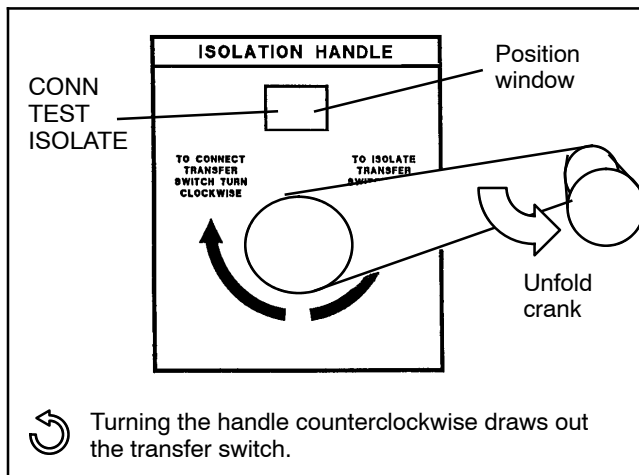
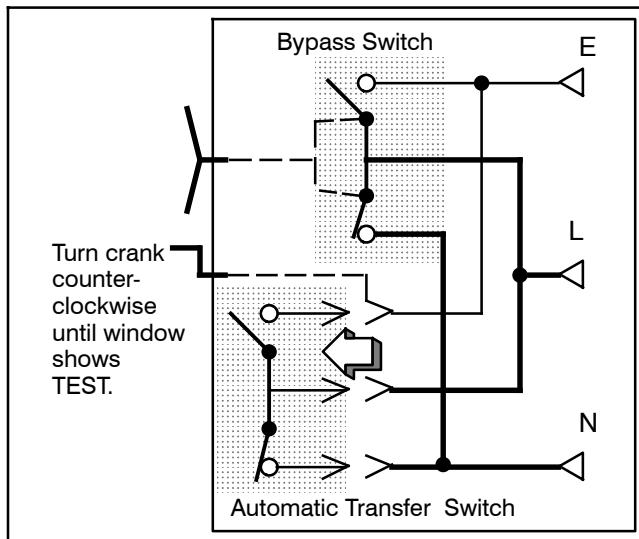
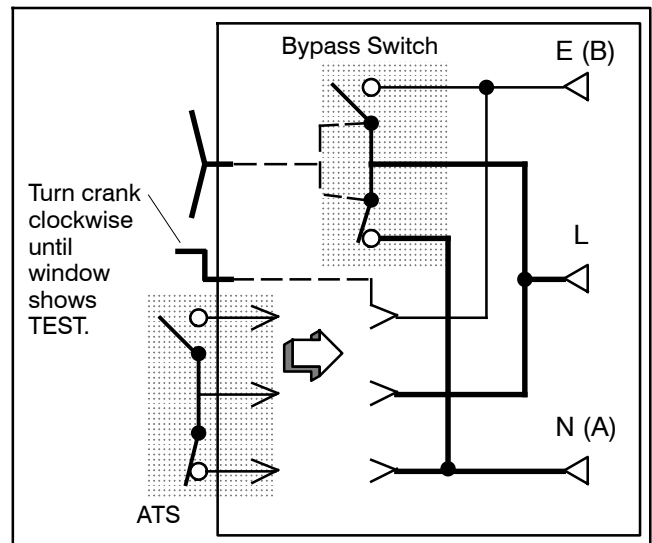

Figure 7-55 Isolation Handle
Figure 7-56 From CONNECTED to TEST Position
Figure 7-61 Moving from ISOLATE to TEST Position
1. Turn the isolation handle *counterclockwise* (approximately 16 turns for 1600-3000 amps, 12 turns for 4000 amps) until the position window shows TEST. See Figure 7-55 and Figure 7-56. The ATS can be tested now without load interruption.
5. Turn the isolation handle *clockwise* (approximately 7 turns for 1600-3000 amp units, 8 turns for 4000 amp units) until the window shows TEST. See Figure 7-55 and Figure 7-61. The ATS can be tested now without load interruption.